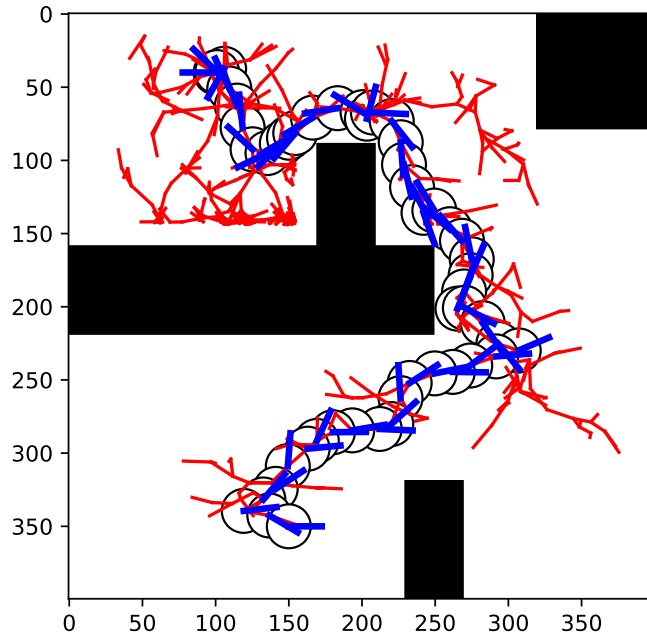

Figure 2: Example RRT solution of the non-holonomic car system.
- Bias the sampling to pick the goal with 5%, 20% probability. Report the performance (cost, time) and include figures showing the final state of the tree for both values. Figure 2 shows an example solution tree found by RRT.